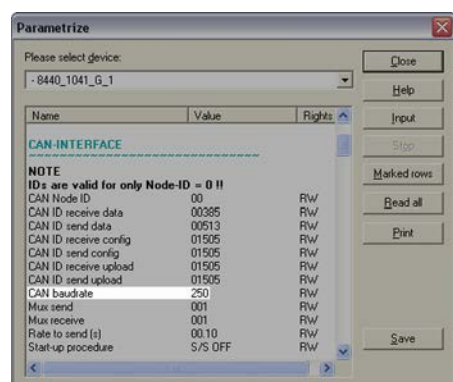

Fig. 215: Baud rate configuration (example LeoPC1)
2. For the first IKD 1 configure the baud rate as shown in (Fig. 215).